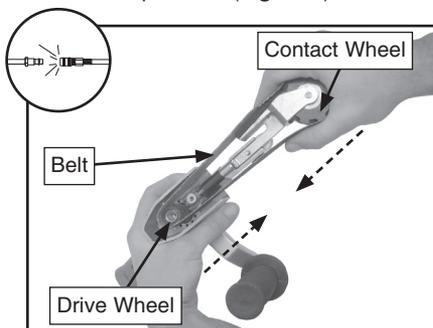

Figure 6. Attaching the sanding belt.
3. Compress the contact arm shaft by pressing the contact wheel towards the drive wheel. Slide the belt over the drive wheel until it is centered, then release pressure (**Figure 6**).